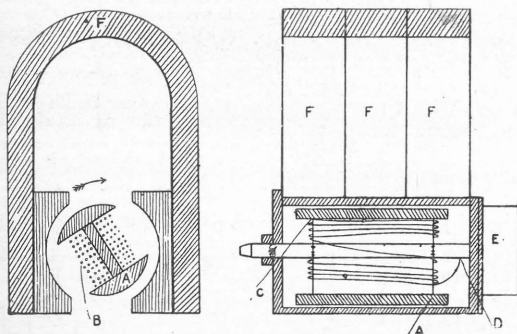
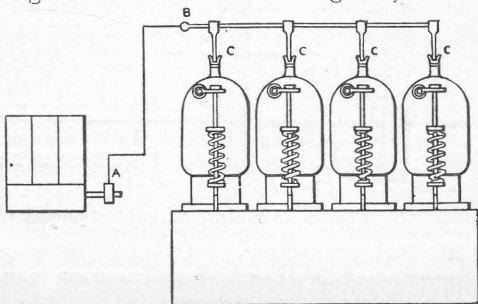

Fig. 1.—A simple magneto showing armature and winding.
Fig. 2.—Low-tension magneto connected to four-cylinder engine.
In practice it is easier to keep the magnet still and move the coil, which comes to exactly the same thing. Further, it is much easier to mount the coil on a spindle and rotate it instead of pushing it backwards and forwards. This brings us to the actual form of a magneto, which is sketched in Fig. 1. We have a horseshoe magnet (F) (or rather three of them placed side by side), just like the ordinary magnets that children play with, only much bigger and more powerful, being in this case about 6 ins. high. At the ends pieces are bolted on to make a circular opening, as shown in the left-hand part of the drawing. Brass plates are fitted at either side (see right-hand part of drawing), which form bearings for a spindle and a core of iron (A) shaped as shown. A single coil (B) is wound on this core (see Fig. 1), and the whole of this coil and core, which is called the "armature," is driven by cog-wheels off the engine. There is a ring (E) at one end of the armature, connected to the coil, from which the current generated is collected. One end of the coil is "earthed," and the other, through the ring and a rubbing contact, is connected to the insulated plugs on the cylinders. Fig. 2 shows how simple the arrangement is. The magneto is shown on the left, current is taken from the armature at A and led to the low-tension plugs (C). The rest of the work is done by the ordinary "trip" gear used with low-tension electric ignition. Low-tension magneto, it will be seen, is the simplest form of ignition we can have, for only one wire is used, the magneto entirely replacing the battery and solenoid. A magneto of this sort will run for years with no attention whatever, except for